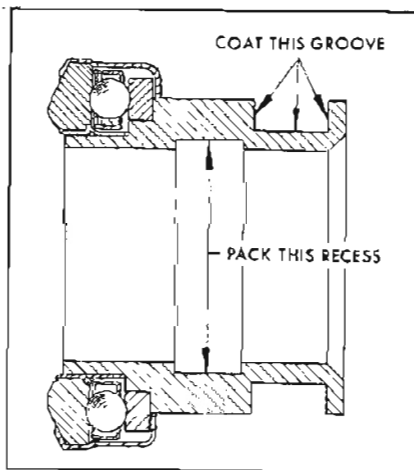

Figure 4-5—Throw out Bearing Lubrication
3. Fill groove in throw out bearing with wheel bearing lubricant (See Figure 4-5). Make sure transmission front bearing retainer sleeve is clean and apply a light coat of wheel bearing lubricant. Slide throw out bearing over transmission retainer several times. Remove throw out bearing and wipe off all excess lubricant pushed up by hub of bearing.
7. Lubricate the recess on the inside of the throw out bearing collar and coat the throw out fork groove with a small amount of wheel bearing lubricant. See Figure 4-5.